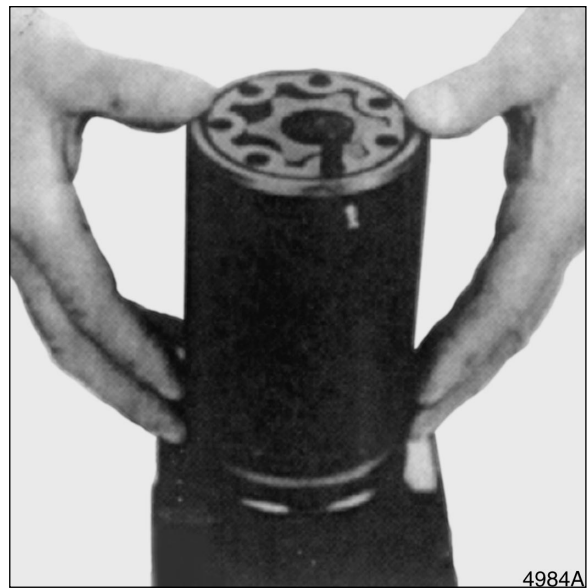

Figure 54
24. Use a bolt to align holes in cylinder gear with bolt holes in housing. See Figure 54.